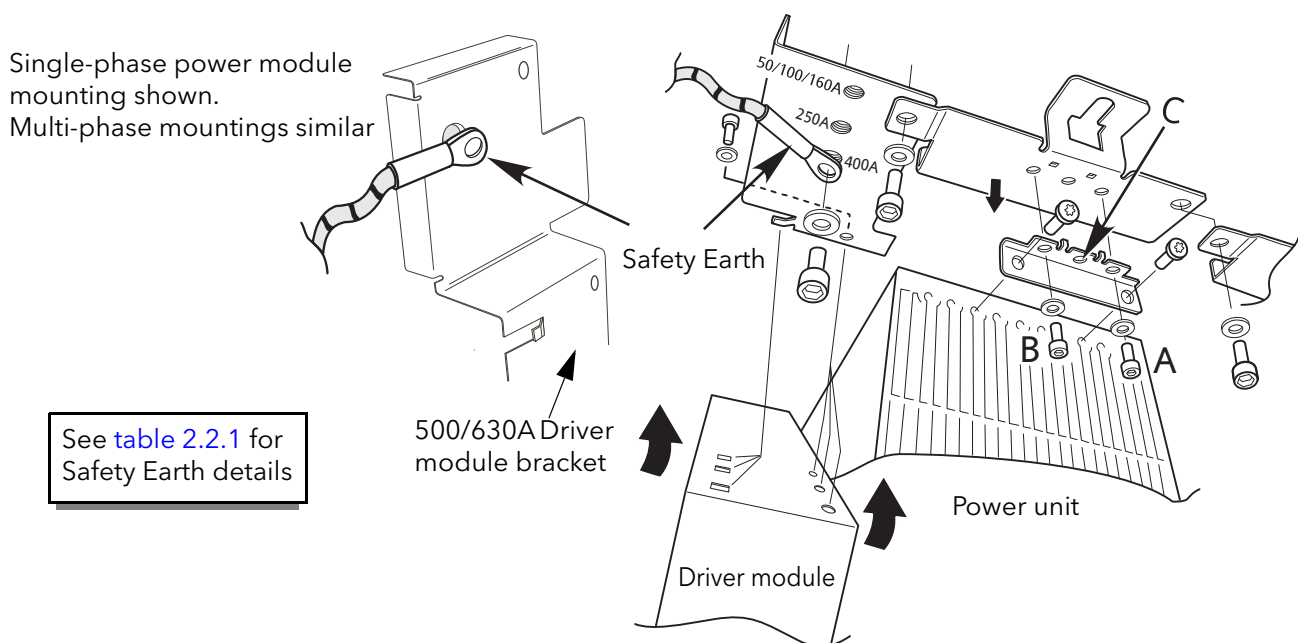

Figure 2.1.1a Bracket fixing details
Figure 2.1.1a, below, shows details of a generalised mechanical assembly for the top of the units. Assembly details for the bottom brackets is similar, except that there is no safety earth fixing. The power module shown is a 400 Amp unit for which the module is fixed to the support brackets using holes A and B. Lower current power modules use only one screw (C) to secure the module to the support bracket.
Figures 2.1.1a to 2.1.1f show fixing centres and other mechanical details for the various modules.
The safety earth connection for the driver/power module set is made to the mounting bracket above the unit as shown in figures 2.1.1a to 2.1.1f, above.